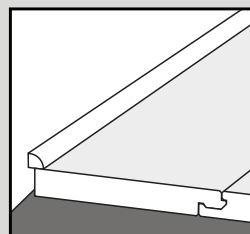
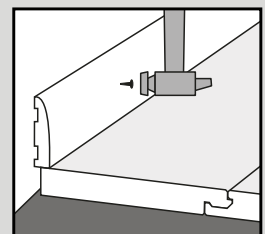

Fig. 8
Fig. 9
- Once the floor is installed, remove the spacers; sweep the floor with a soft brush. Fix the skirting/base boards or suitable edge trim (available from your local distributor) to cover the expansion gaps. These should be attached to the wall and not the floor, such that the product remains free to expand (Fig. 8 & Fig. 9).